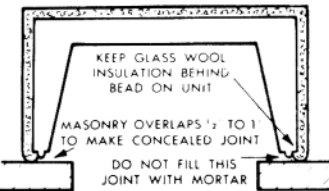

FIG. 3 Insulation and concealed joint
Step 3 Lay the first course of masonry dry around the unit to check dimensions, thickness of mortar joints and grille locations. Take care to prevent the masonry from touching the unit at any point. The finished width of the fireplace opening should be 1" to 2" less than the width of the Circulator opening. Lay the masonry beyond the Circulator on each side of the Circulator opening, making a concealed joint between the Circulator and the masonry. Due to heat expansion, mortar will not stay in this concealed joint. (See Figure 3.)